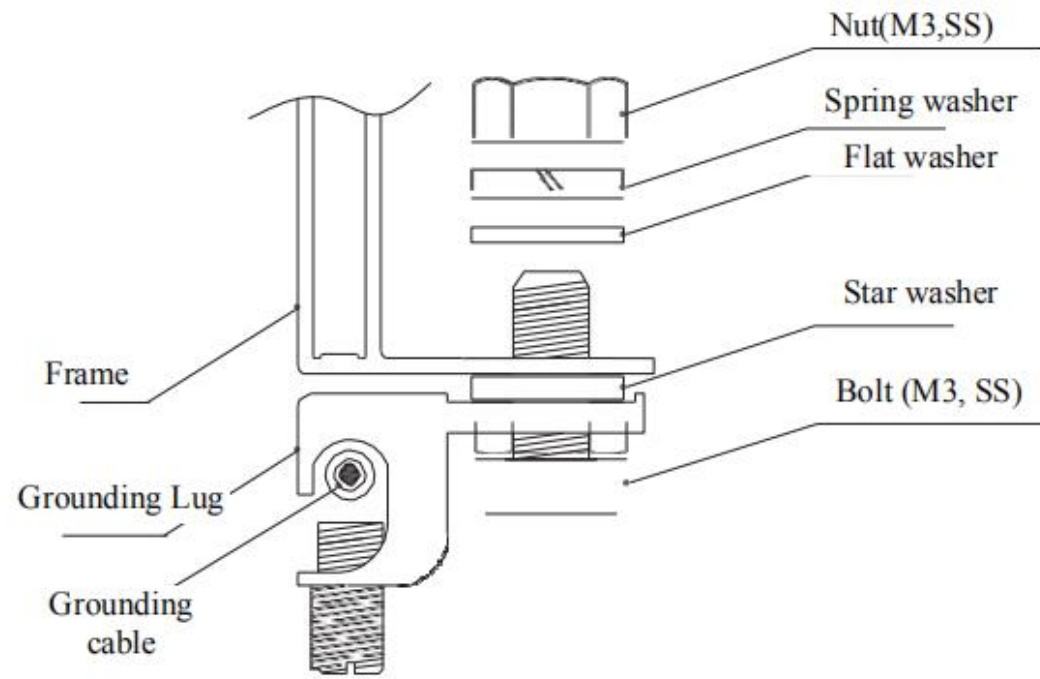

Figure 7
5.First, peel the grounding cable to a proper length without damage to the metal core. Then insert the peeled cable into the lug, tighten the screw. As shown in Figure 7, connect the lug to the aluminum frame with stainless steel bolts and connection components. The recommended tightening torque for M3 bolts is 2.3N•m.